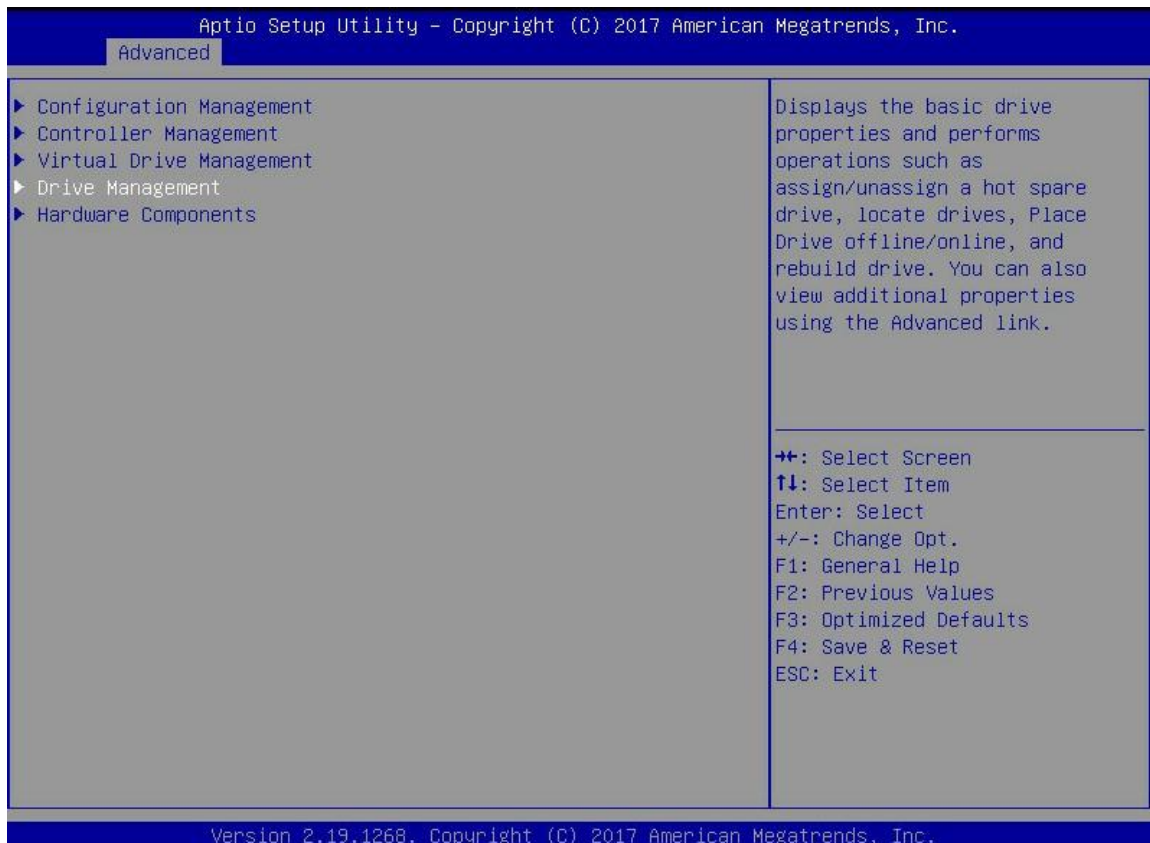

Figure 6-47
- a) As shown in figure 6-47, select drive management in the raid card configuration interface and press enter.